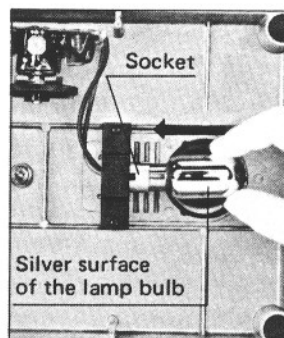

Fig. 13
- 3) To attach the bulb, pushing the lamp bulb with its silver surface turned to the side of the bottom lid insert the bulb into the socket. (Fig. 13)